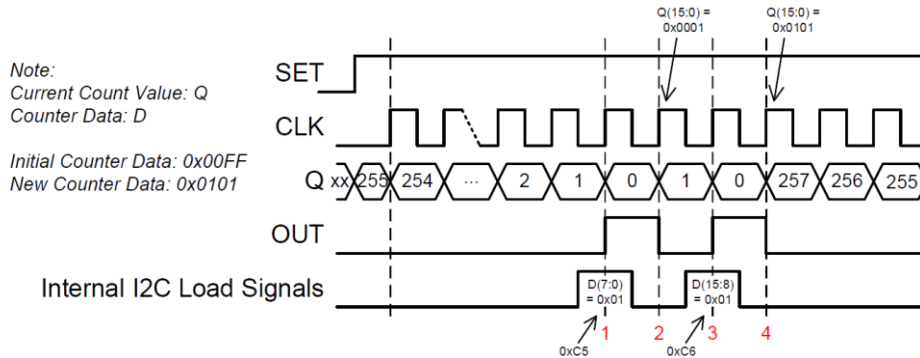

Figure 10: I2C Write of 16-Bit Counter Data Example
The timing diagram in Figure 10 sets up a case where an improper output will be seen on the counter. In this example, the initial Counter Data value (D) is set up as 0x00FF. As you can see, the Current Count Value (Q) decrements from 255 down to 0 with rising edges on CLK. At time “1” denoted by a red number 1, an I2C command (not shown) has just been sent to the GreenPAK device to reconfigure the Counter Data value to 0x0101.
For the following condition, the Counter Data register contents are unexpectedly loaded into the counter's DFF chain. This behavior occurs when there is a falling edge on the counter block's clock input during the data return portion of an I2C read of the Counter Data registers. Figure 10 shows this falling edge boxed in light blue followed by two I2C reads of the Current Count Value registers.